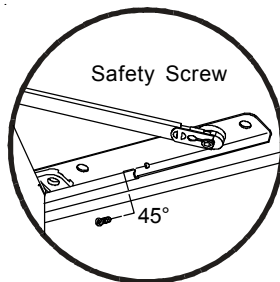

FIGURE 2
4. Units made after August of 2000 will have a screw on the head hinge track that will now need to be removed (Fig. 2).